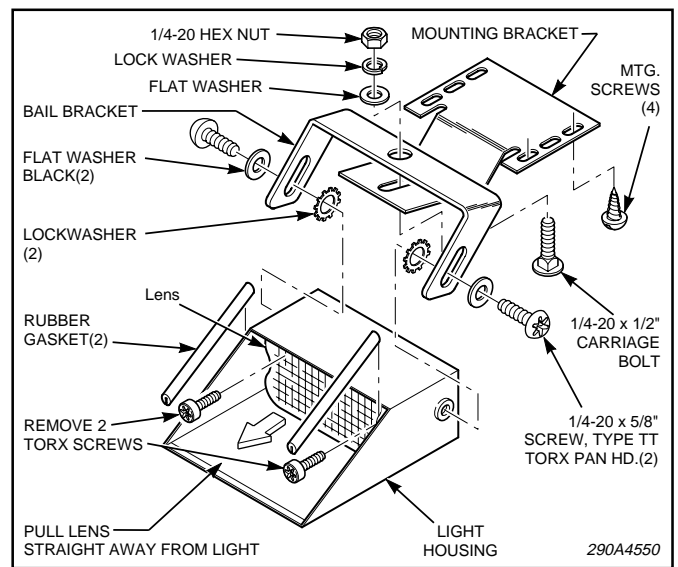

Figure 3.
6. See figure 3. Assemble the bail bracket to the light assembly using the two 1/4" x 5/8" pan head screws, external tooth lockwashers, and black flat washers. Do not
tighten the screws at this time. Cut the rubber gaskets to length and assemble to the sides of the light assembly as shown in figure 3.
7. See figure 3. Assemble the light assembly/bail bracket to the mounting bracket's center slot using the 1/4-20 carriage bolt, flat washer, split lockwasher, and 1/4-20 nut. Do not tighten the nut at this time.
- Remove and retain the two screws and lockwashers which secure the light assembly to the mounting bracket (see figure 3).